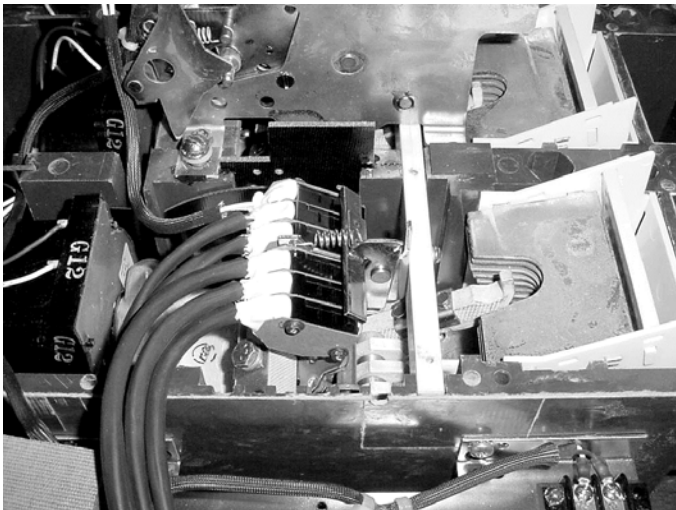

Figure 10. New auxiliary switch [4] installed in an 800–2000 A breaker.
- 800–2000 A breaker: Insert the new switch into the breaker base and secure with the two screws [2] supplied, as shown in Figure 10.